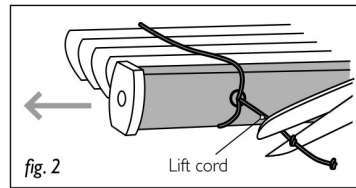

fig. 2
6.4 Cut lift cord 2cm above cap and remove. Pull the lift cord from the bottom weight bar to allow it to slide out of the ladder rung [fig. 2].